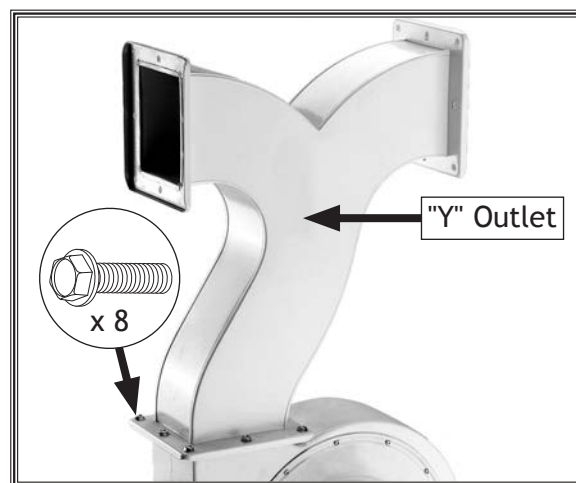

Figure 9. "Y" outlet installed.
5. Secure the metal "Y" outlet to the impeller outlet with (8) $\frac{5}{16}$ "-18 x $\frac{1}{2}$ " flange bolts, as shown in Figure 9.